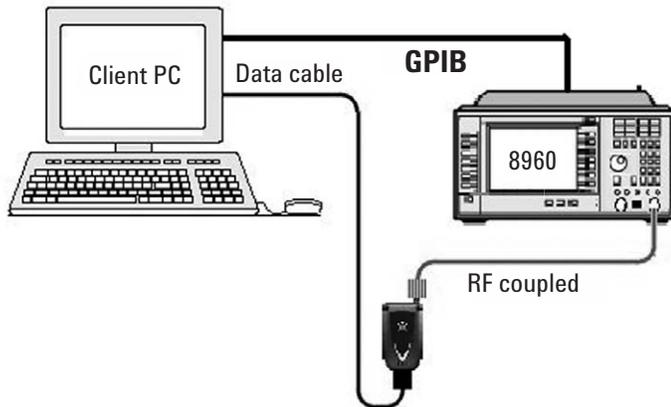

Figure 6: Diagram of the UE, 8960, and external controller interconnections
Agilent’s measurement solution operates without a direct communications link between the 8960 and the user equipment (UE). In fact, the only physical connect between the UE and the 8960 is the RF output of the UE to the RF In/Out port of the instrument. Therefore, an intermediary controller is required to set up and control the 8960 PAVT measurement parameters and to control the UE to transmit its test signal waveform. Figure 6 illustrates a typical hardware configuration.